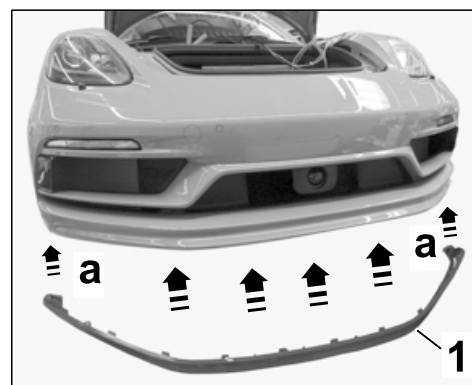

Figure 30
- 5.13.1 First insert the spoiler lip into the front apron at the outside ⇒ *Figure 30 -arrows a-* with the help of an assistant and then clip it into the front apron, starting from the outside to the center ⇒ *Figure 30 -arrows-*.